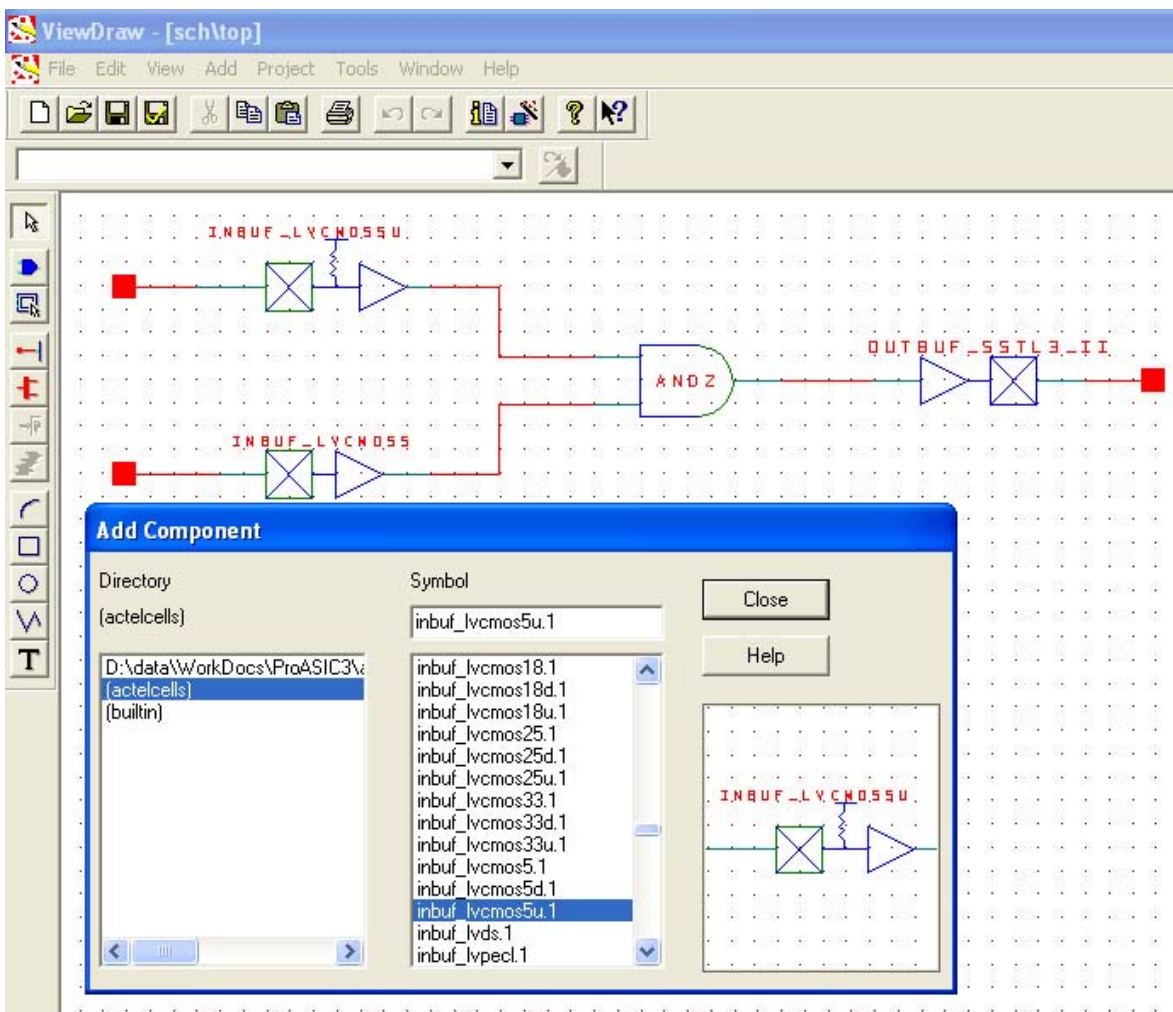

Figure 8-5 • I/O Buffer Schematic Cell Usage
- Enter a name for the macro. Click **OK**. The core will be generated and saved to the appropriate location within the project files (Figure 8-5 on page 201).
Libero SoC software includes the ViewDraw schematic entry tool. Using ViewDraw, the user can insert any supported I/O buffer cell in the top-level schematic. Figure 8-5 shows a top-level schematic with different I/O buffer cells. When synthesized, the netlist will contain the same I/O macro.